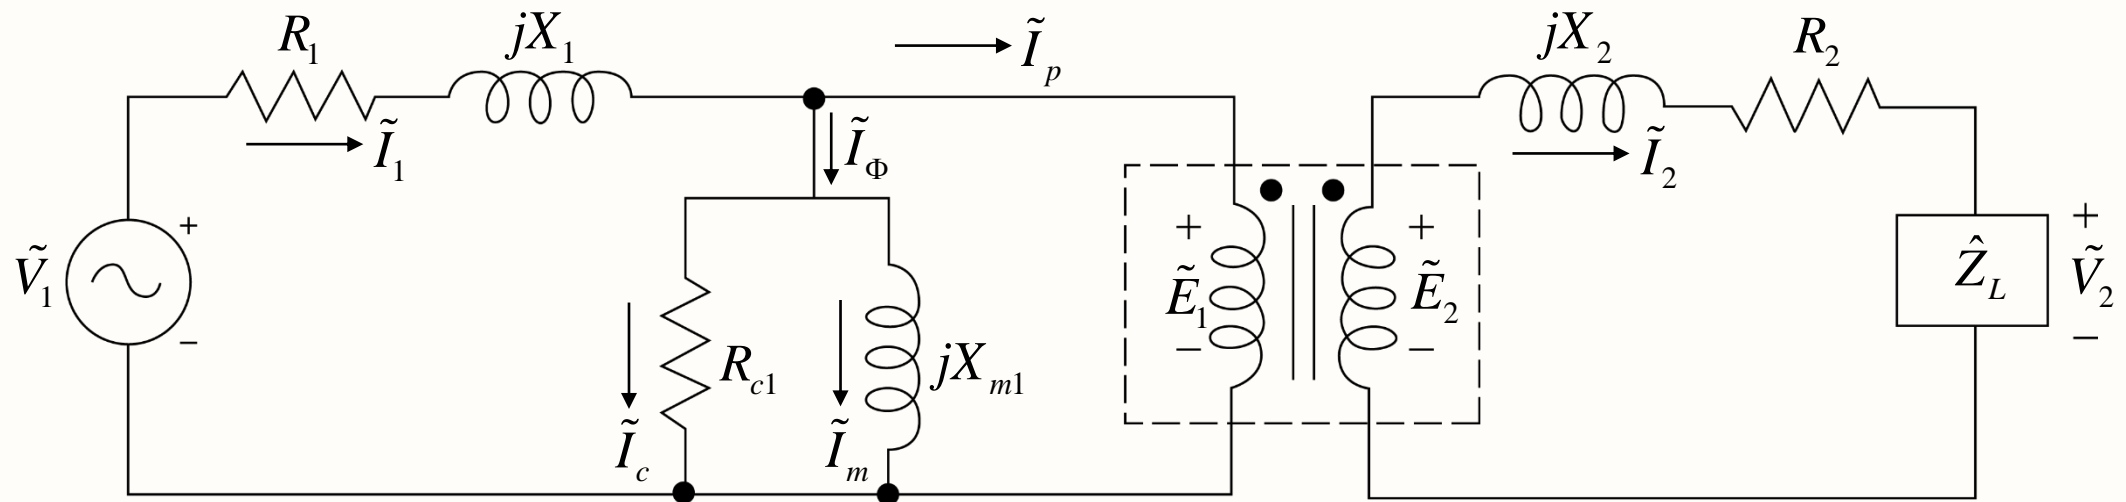

Fig. 17. Exact equivalent circuit of a transformer.
- ❖ Fig. 17 shows the exact equivalent circuit of a transformer. The calculations involved in transformer problems can be significantly reduced if the transformer circuit is simplified by referring all the circuit parameters to only one side. The circuits thus obtained are called the exact equivalent circuits referred to that side.